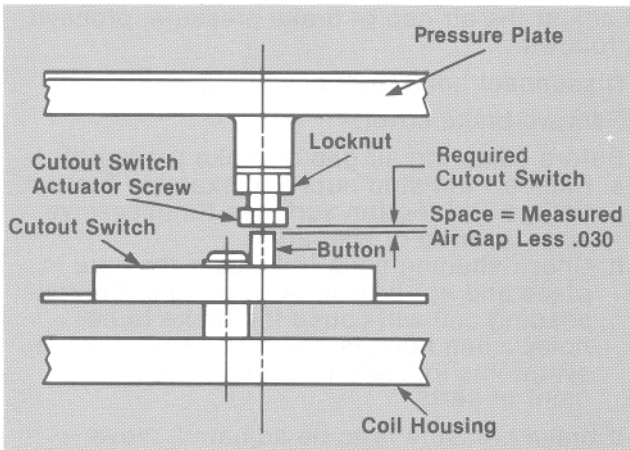

Figure 7
- After the correct air gap is obtained, the space between the button of the cutout switch (670-247) and the head of the cutout actuator screw must be checked. To do this, measure the air gap between the pressure plate and coil housing at the brake stud nearest the cutout switch (Figure 7). Subtract 0.030 inch from the measured air gap, and this should be the space between the button of the cutout switch and the head of the screw. If the cutout switch space is other than the measured air gap less 0.030 inch, loosen the locknut on the pressure plate and rotate the screw until the proper space is obtained. Lock the screw in this position by tightening the locknut against the pressure plate (Figure 7).